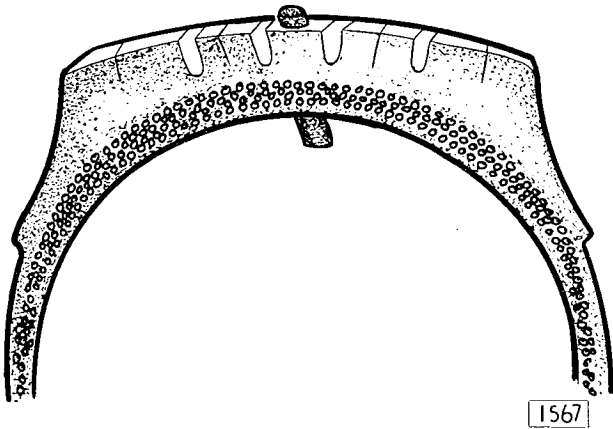

Fig. 29. Section showing repair completed.
5. Withdraw the needle and cut off surplus plug about $\frac{1}{8}$ " (3.17 mm.) from surface of tread (Fig. 29.) Tyre can be inflated and used immediately.